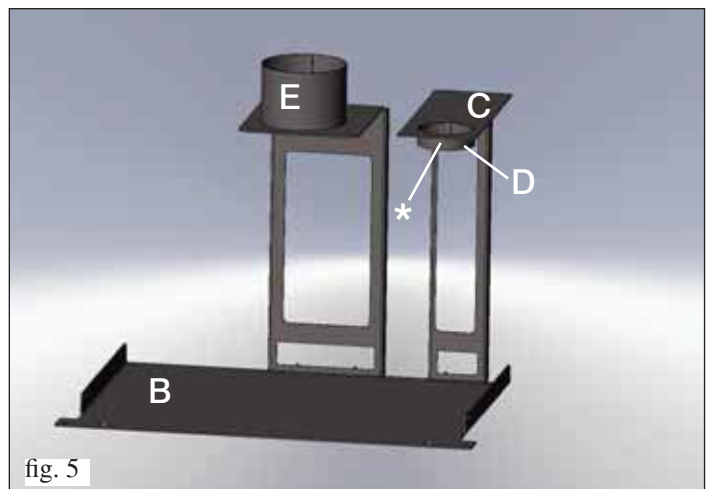

fig. 5
- Cut the tube to size and fit the end of the tube on the centring bracket (E fig. 3 to the side and fig. 5 on pg. 30) and fasten it using the clamps provided.
Assemble the facilitation kit as shown in figure 5.
• Fit the chimney flue on the collar of the bracket (**C**) placing it on the dedicated screws (*) (fig. 5).
• Fit the pellet loading tube on the collar of the bracket collar (**E** fig. 5 to the side and fig. 3 on pg. 28), securing it with the clamp supplied.